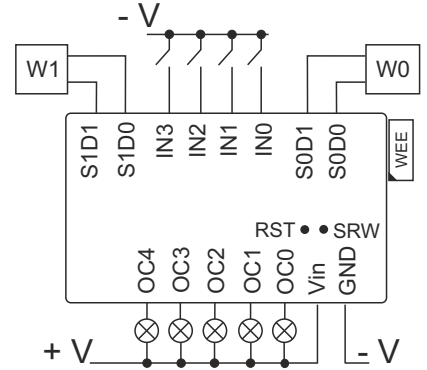

Fig. 1 Description of the device
1. Note of the card PIN and Serial Number (SN) device (Both located on the housing of the device)
3. Connect receivers OC0..OC4 receivers as in Fig. 1